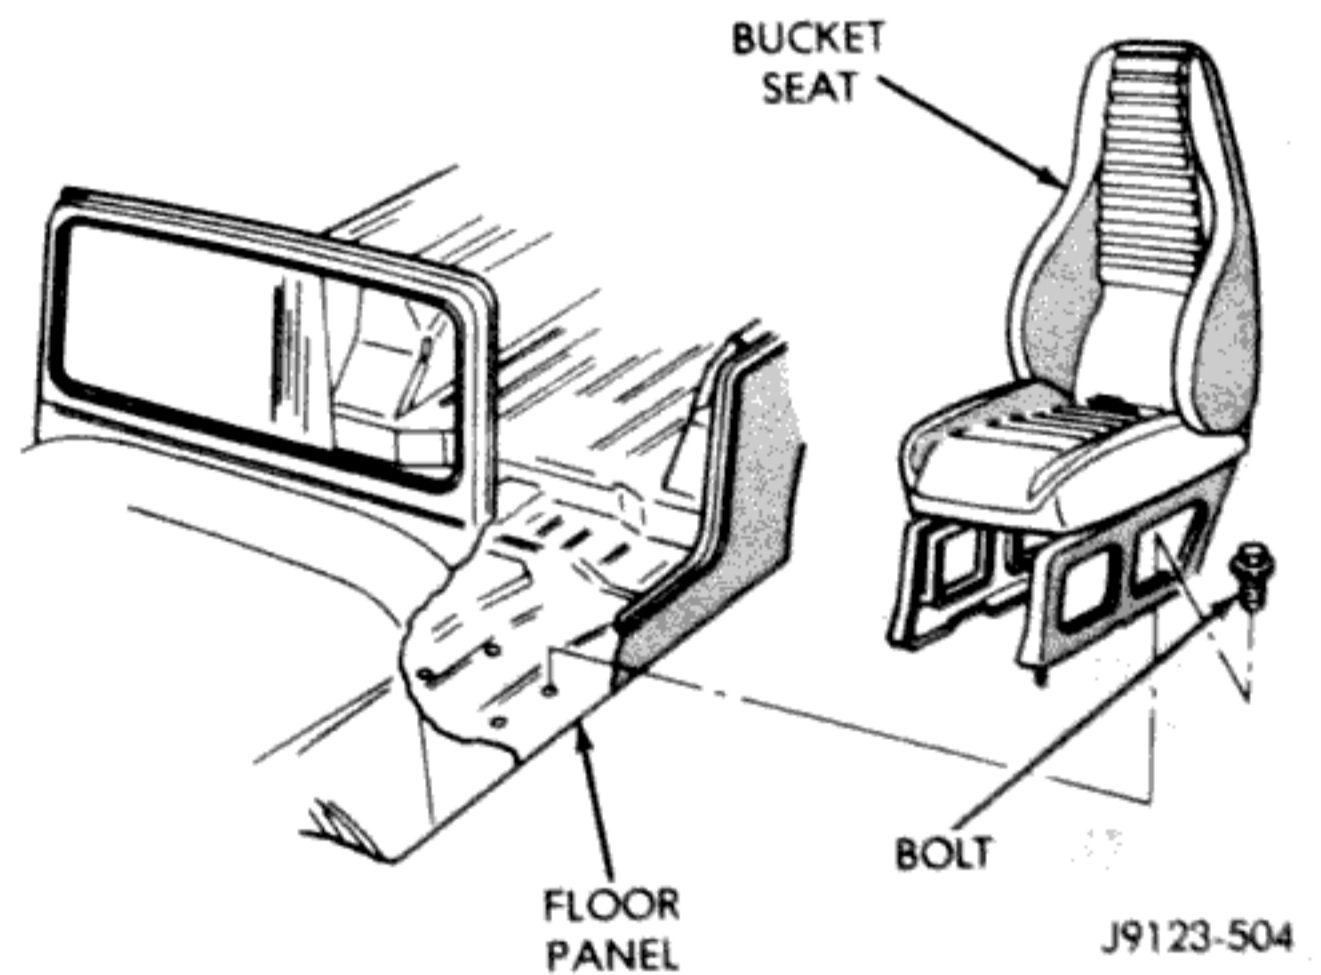

Fig. 2 Bucket Front Seat
- (1) Remove the bolts attaching the seat frame to the floor panel (Fig. 2).